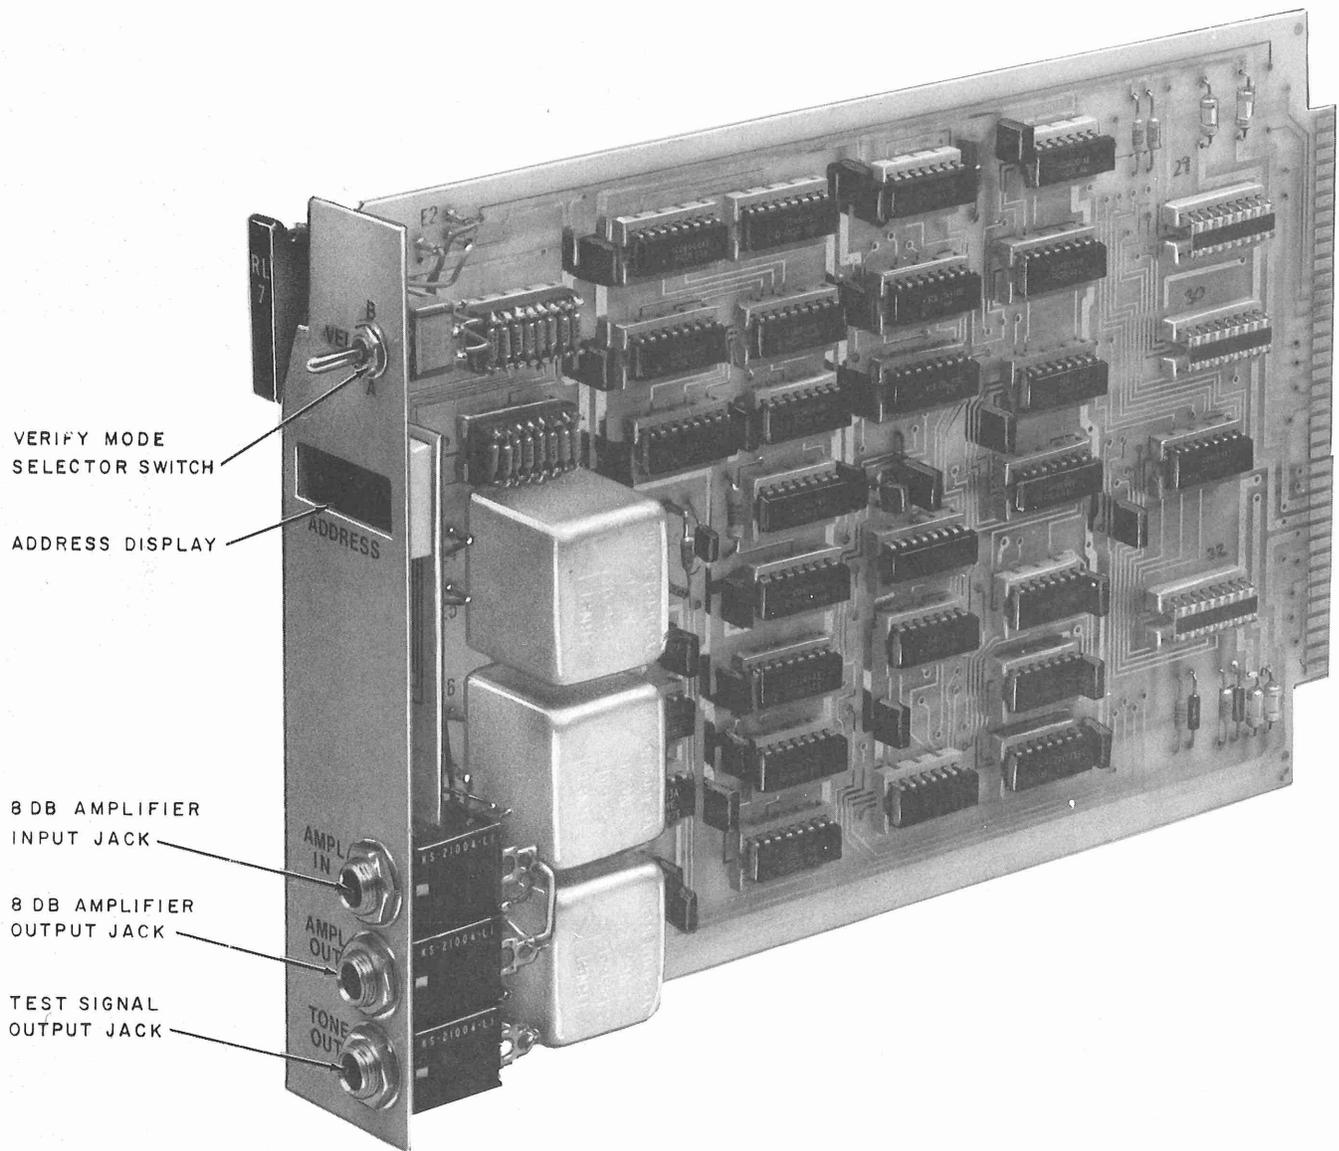

Fig. 9—RL7 CP—Verify Circuit Pack
2.08 RL7 CP (Fig. 9): A three-digit display window (ADDRESS), three jacks (AMPL